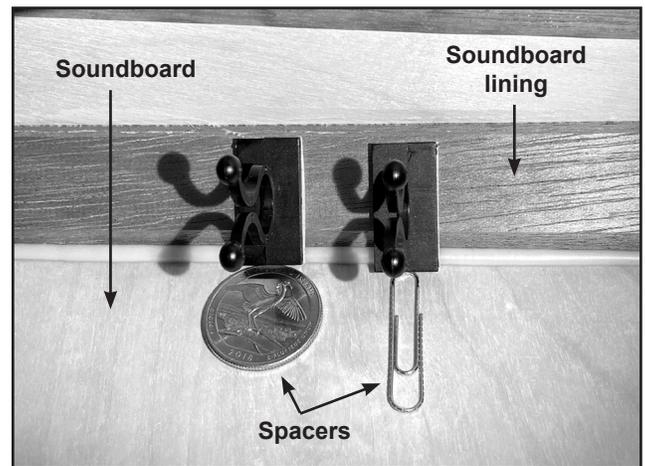

Figure 6 – Example spacers
3. Use the spacer to position the bottom edge of the clip up off the soundboard (see figure 6).